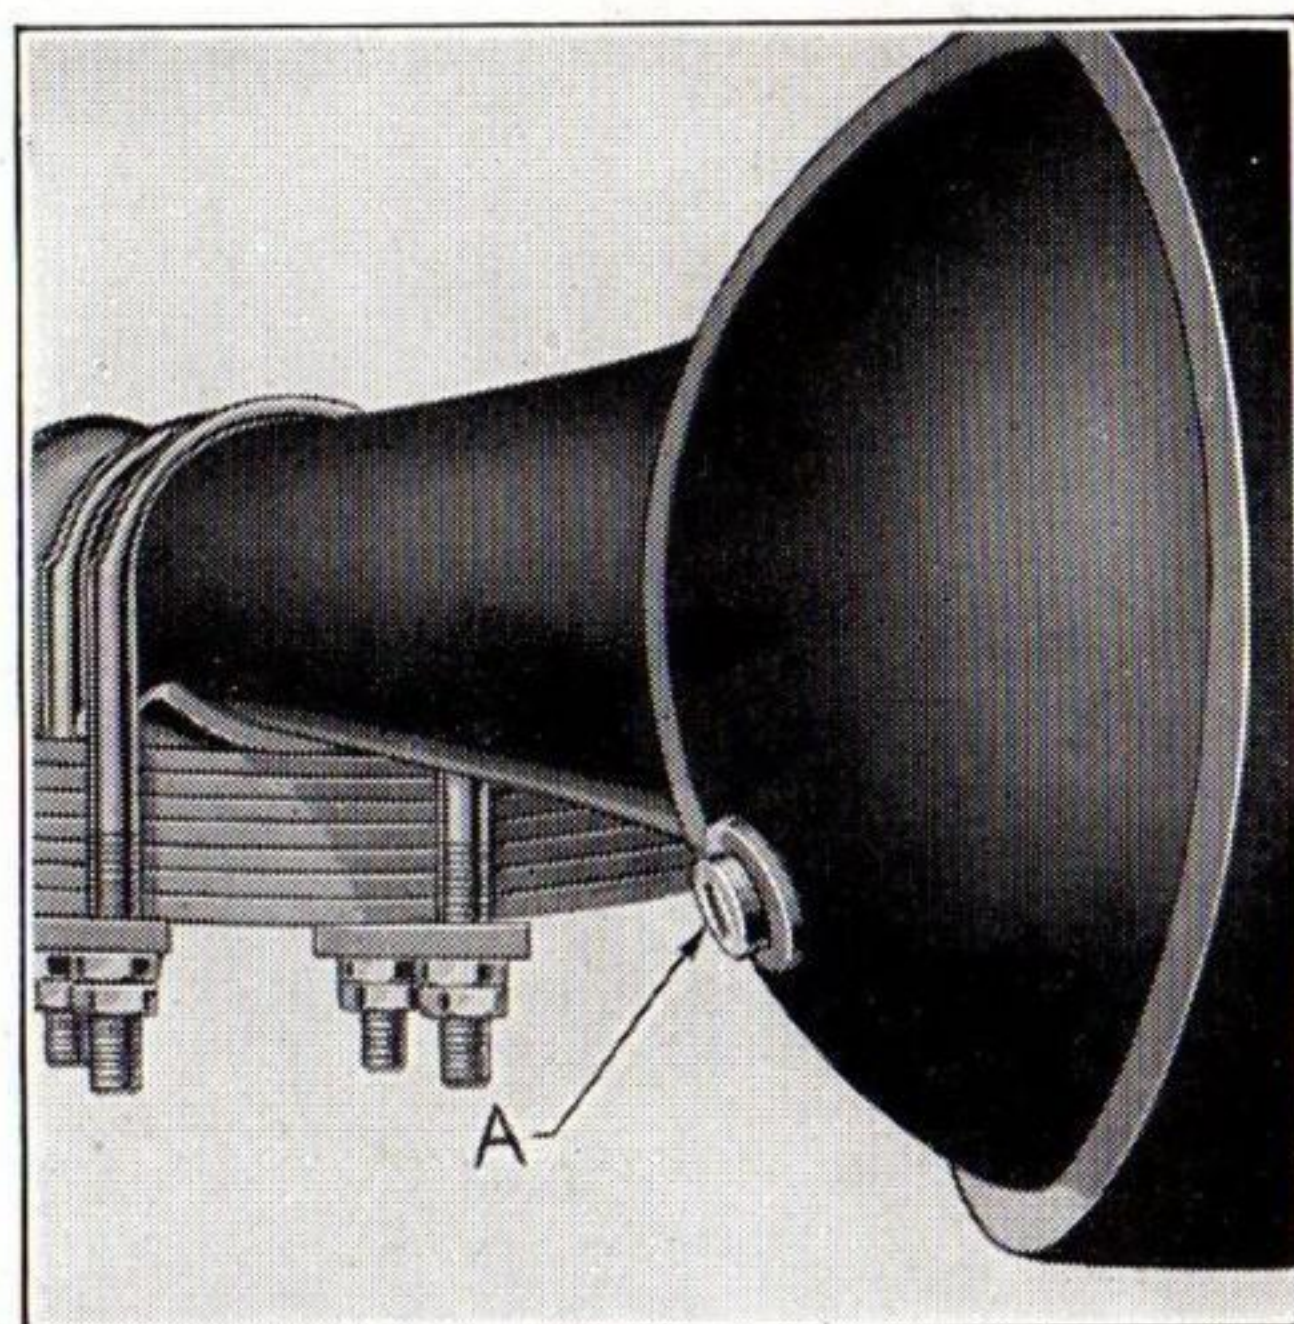

Figure 17
The oil should always be kept to the level of the filler plug (A), Figure 17. Drain the oil and replace with three pounds (or pints) of fresh oil with season.